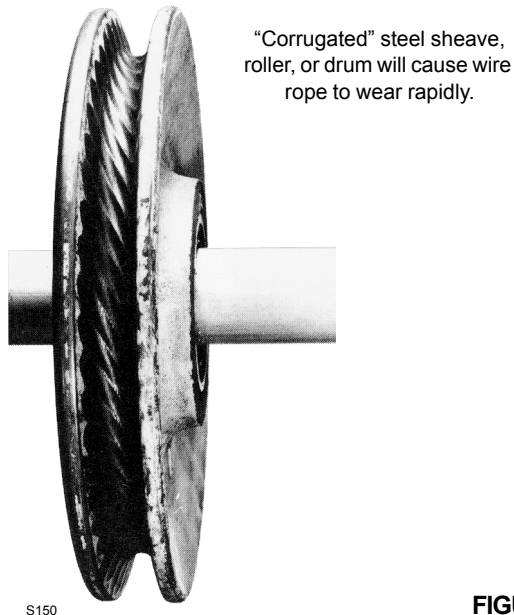

FIGURE 5-27
6. Re-machine or replace steel sheaves, drums, or rollers that have been corrugated by the wire rope's print as shown in Figure 5-27.